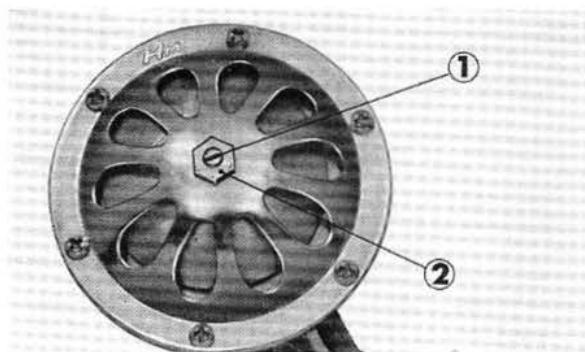

Fig. 3-7 ① Screw ② Nut
2. Insufficient loudness: adjust the current control screw on back of the horn, (Fig. 3-7)